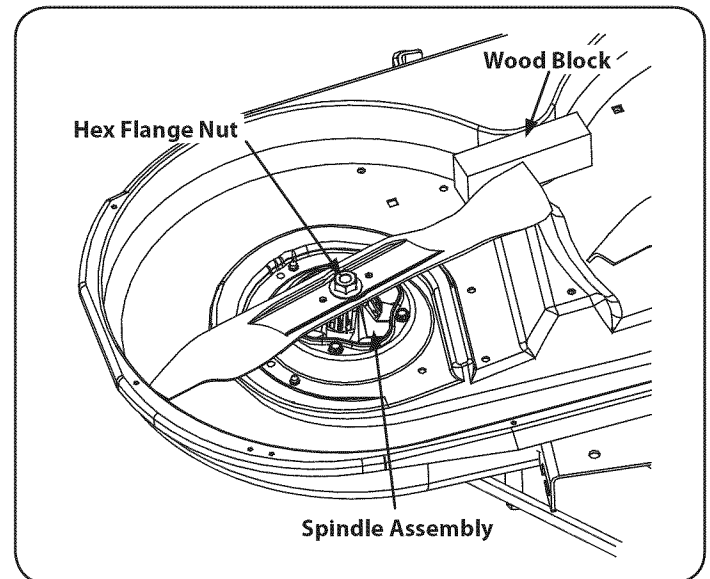

Figure 40
2. Use a 15/16" wrench to hold the hex nut on top of the spindle assembly when loosening the hex nut securing the blade. A block of wood may be placed between the deck housing and the cutting edge of the blade to help in breaking loose the hex nut securing the blade. See Figure 40.